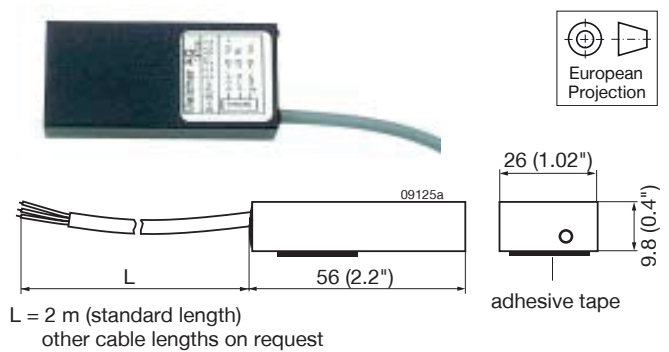

Fig. 30
- Different battery sensors S-KSMH... for using the converter as a battery charger. Different cell characteristics can be selected; see fig. 30, table 12, and *Battery Charging/Temperature Sensors*.